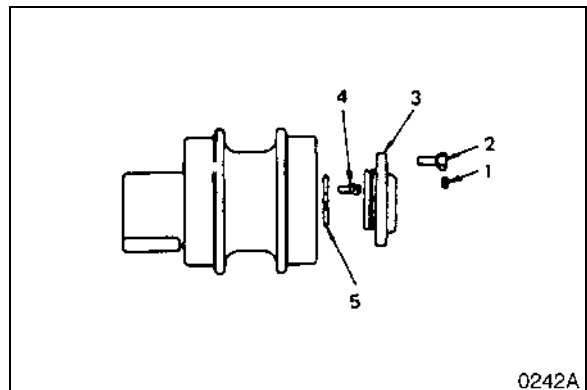

Figure 42
2. Remove the bolts and cover (3, Figure 42). Detach bolts (4) and washer (5).